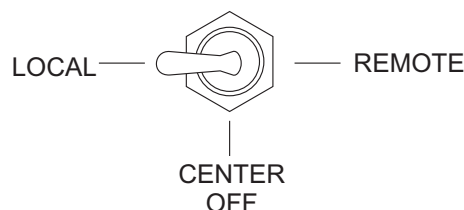

Figure 26. Pumping Control Switch (LOCAL)
1. Place the **Pumping Control Switch** to the **LOCAL** position (Figure 26) for normal pumping operation.